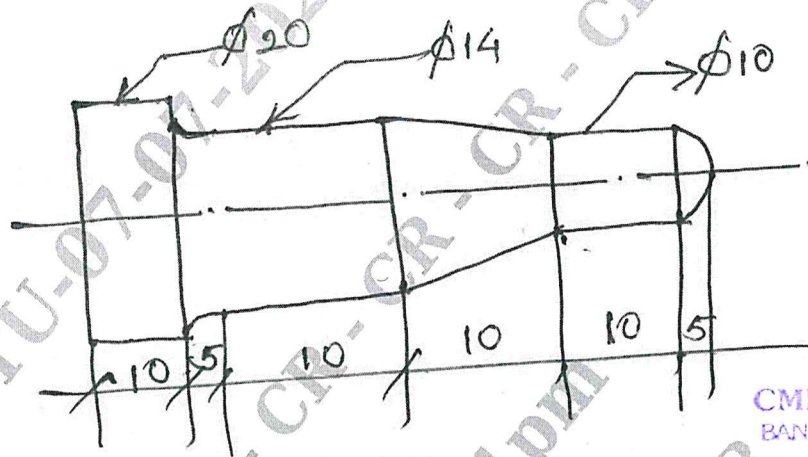

Fig.Q10(b)
b. Write a manual part program for machining the profile shown in Fig.Q10(b). (All dimensions are in mm)